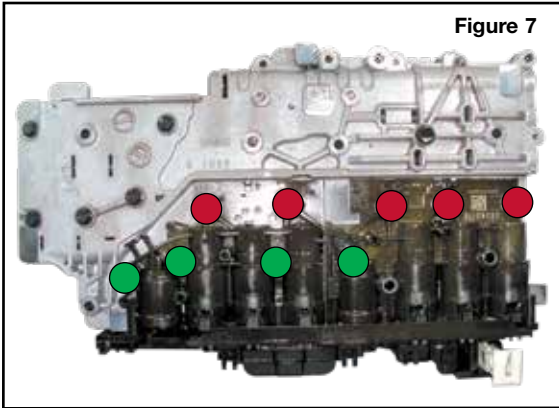

Figure 7
- Remove the four 10mm head and five 7mm head bolts (Figure 7). Remove the TEHCM and set aside for inspection, testing and cleaning.
- c. Install the four 10mm head and five 7mm head bolts and *hand-tighten only* (Fig. 7).